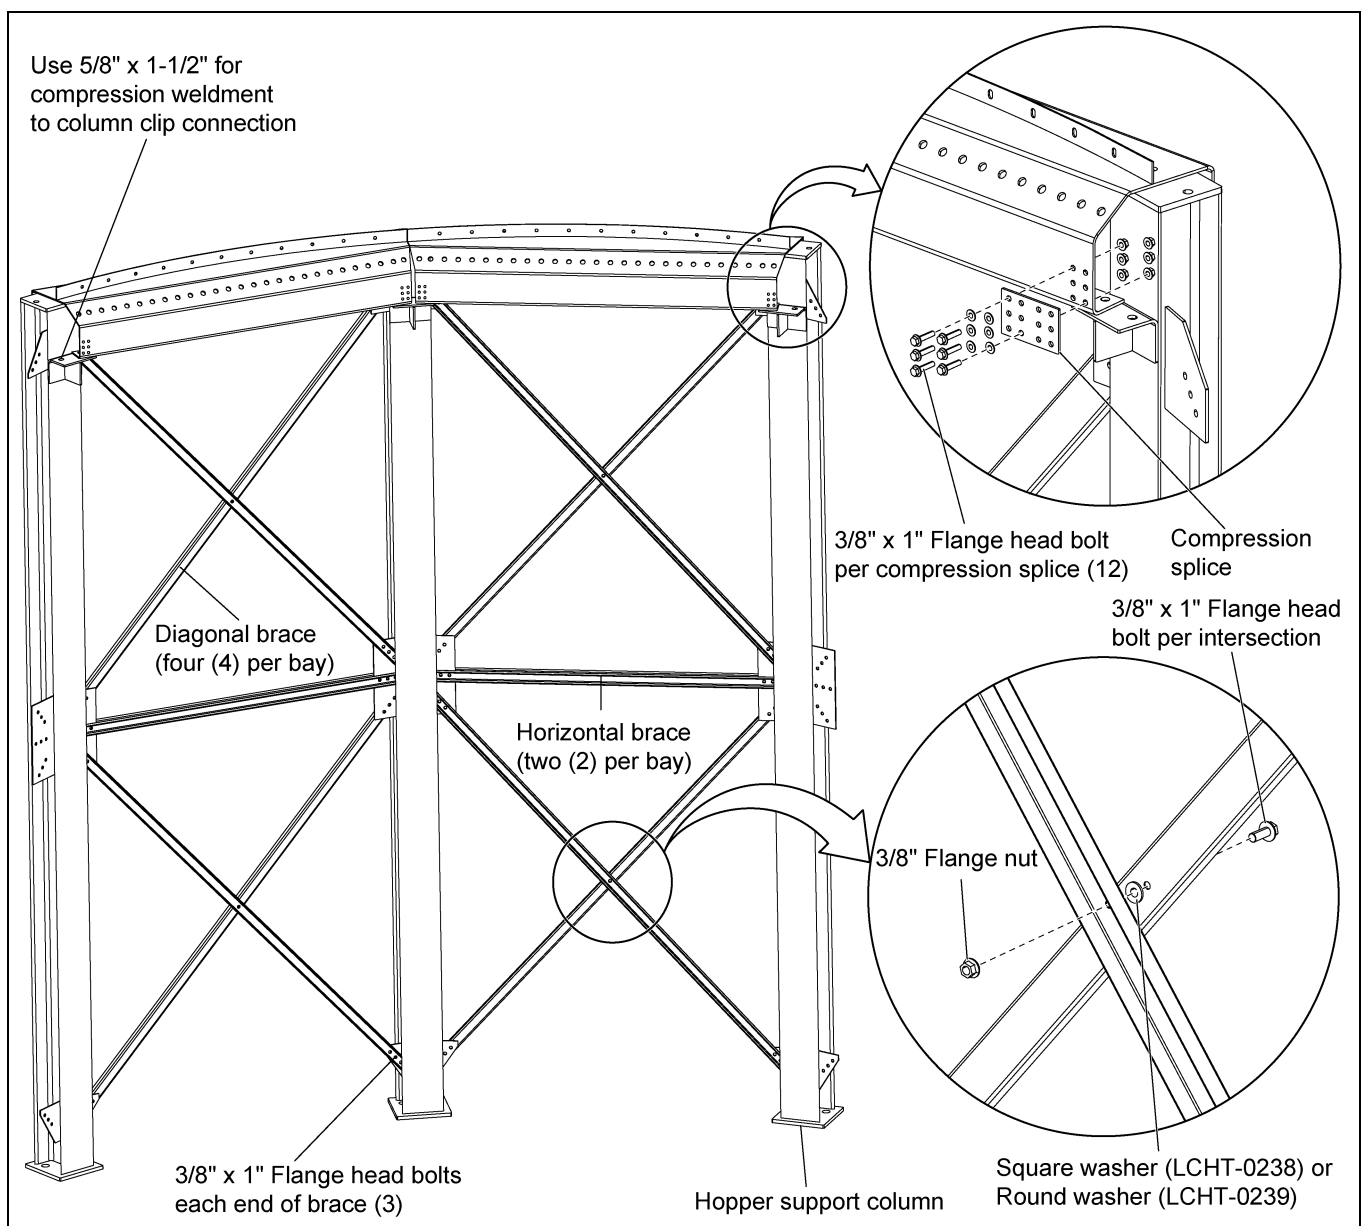

Figure 6B
Connect hopper support column bracing as depicted in *Figure 6B*. Use 3/8" x 1" hex flange head bolts for all bracing connections. The horizontal brace consist of two (2) formed channels placed back to back. Connect diagonal braces at their intersection with one 3/8" x 1" hex flange head bolt. **NOTE:** *The brace spacers must be installed between the diagonal braces when installing the bolt.*